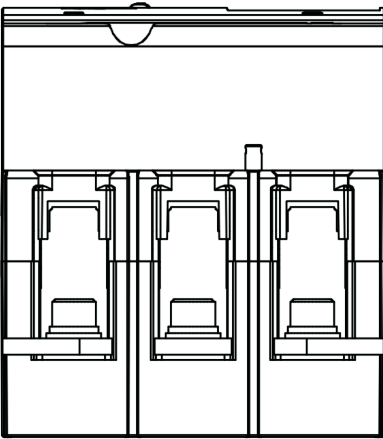
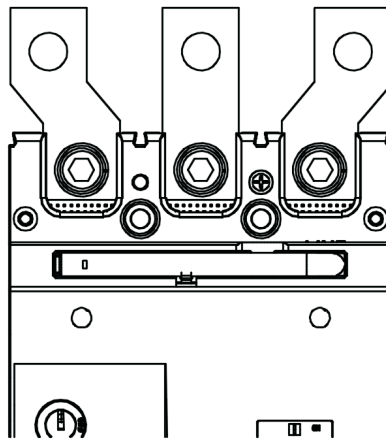
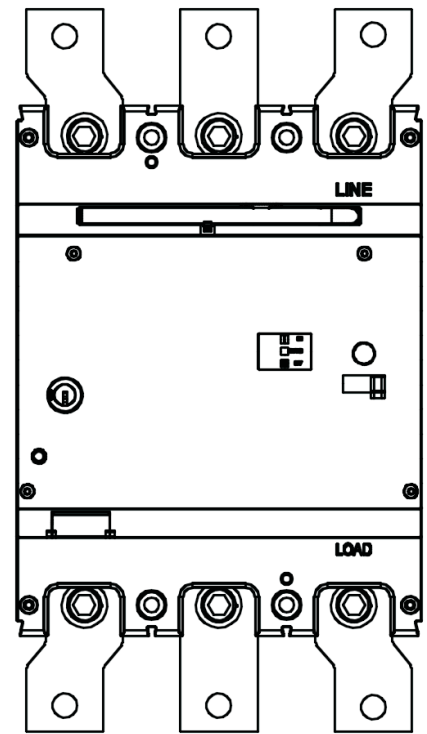

Figure 3
Figure 4-1
Figure 5
6.5. The circuit breaker wiring method for the terminal block is shown in Figure 3, Figure 4-1, Figure 4-2, and Figure 5, where the terminals are made of tin-plated copper.
6.6. Figure 3 shows a wiring structure with a rated current of 250A (including 250A) and the same suspension ring structure for incoming and outgoing wires; Figure 4 shows a rated current of 400A (including 400A) with incoming and outgoing wires, and Figure 4-1 shows a busbar arrangement for incoming and outgoing wires at the bottom; Figure 4-2 shows a copper post-type terminal block for incoming and outgoing wires at the top; and Figure 5 shows a terminal block arrangement for incoming and outgoing wires with a rated current of 500A (including 500A) or higher.